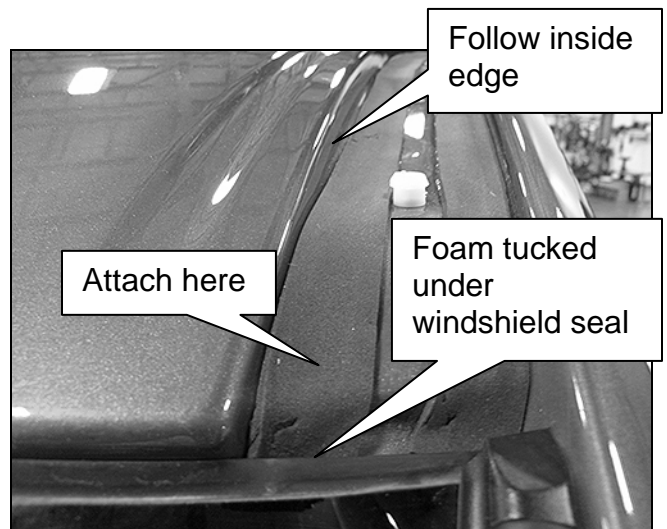

Figure 14
- f. Attach several inches of the second foam strip along the inside edge (Figure 14).
- g. While peeling only enough of the adhesive backing to allow several inches at a time to be attached, apply the strip along the inside edge of the molding recess as shown in Figure 14.